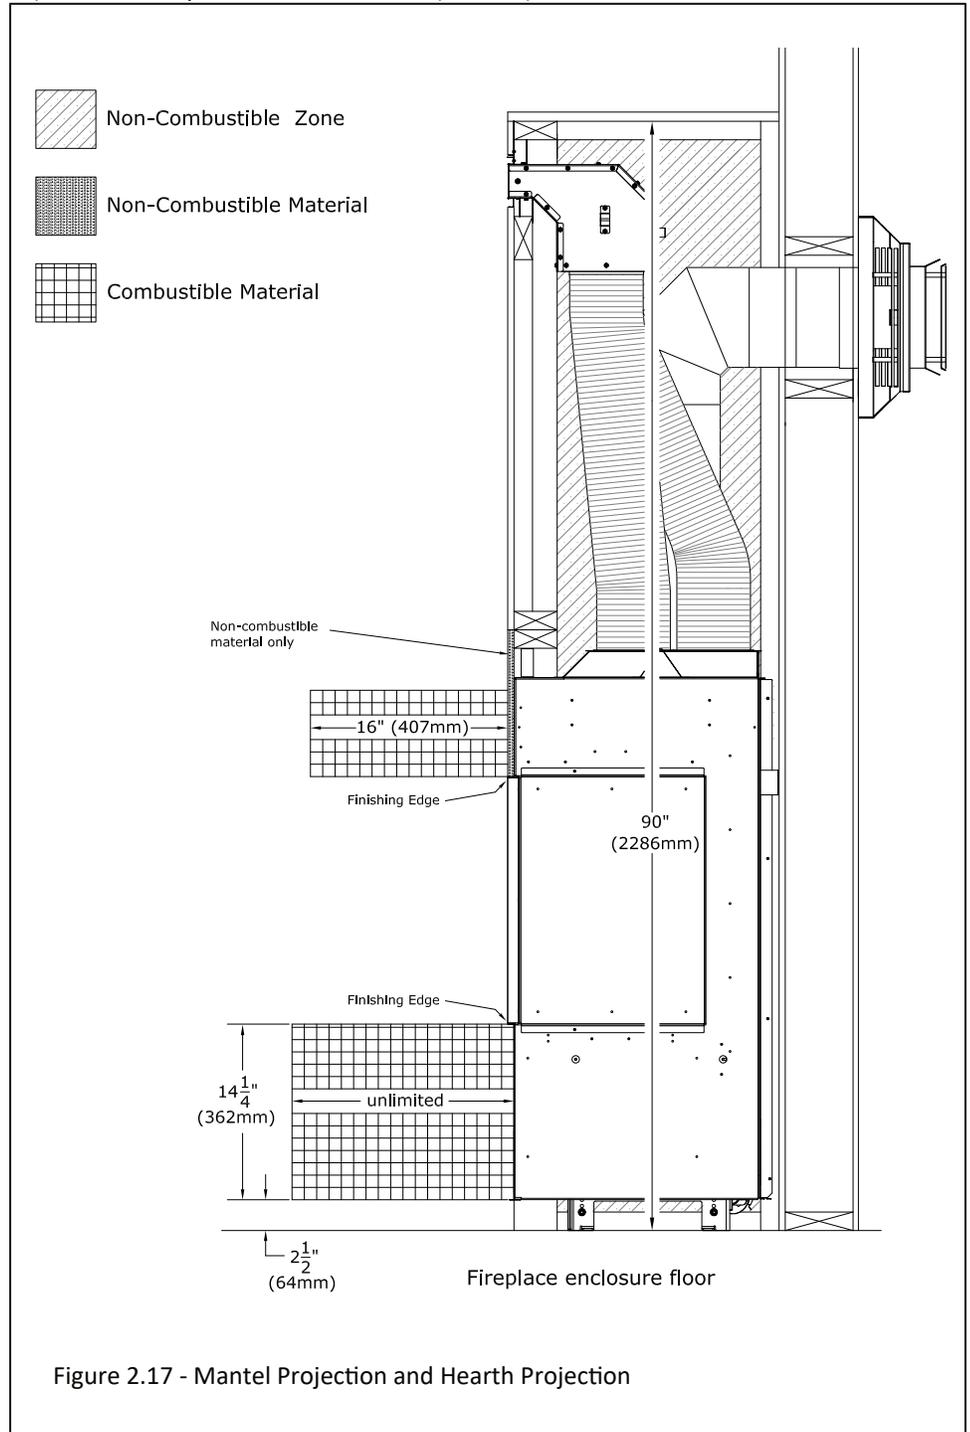

Figure 2.17 - Mantel Projection and Hearth Projection
- **Combustible Mantel Projections:** A maximum of a 16" (406mm) mantel can be installed flush at the side and top finishing edge. See Figure 2.17
- **Combustible Hearth:** Combustible hearth can have an unlimited projection. Hearth can be raised flush to the bottom finishing edge. See Figure 2.17.